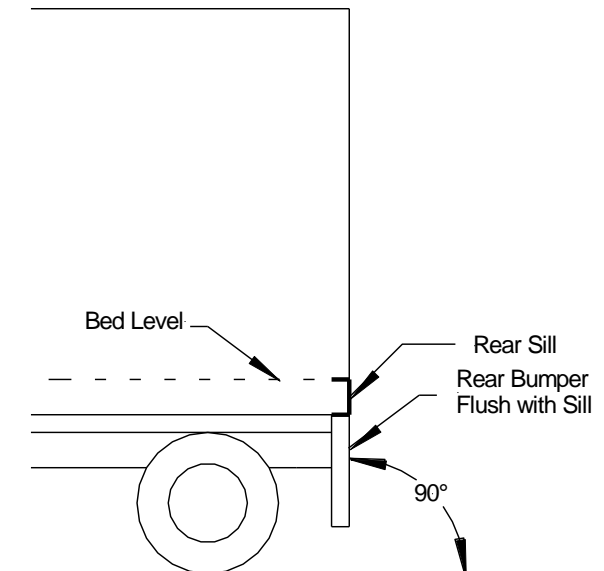

Fig. 2
2. Remove Rear Protrusions: Be certain that under ride bumpers, trailer hitches, or other auxiliary equipment do not extend rearward of rear sill. Use the following illustrations as a guide. A more detailed explanation can be found in the following sections, **Fig. 2**.